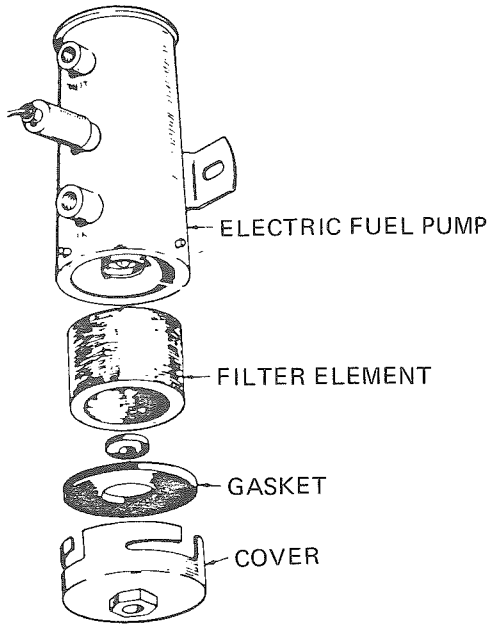

Figure 207 – Onan Fuel Pump
**Electric Fuel Pump** – Service of the generator fuel pump is limited to cleaning the filter. Every 100 hours, drain the fuel pump and check the filter element. Turn the hex nut on the base of the pump to gain access to the filter element. If the element appears dirty, replace it. Be sure to replace gaskets when reassembling (see figure 207).